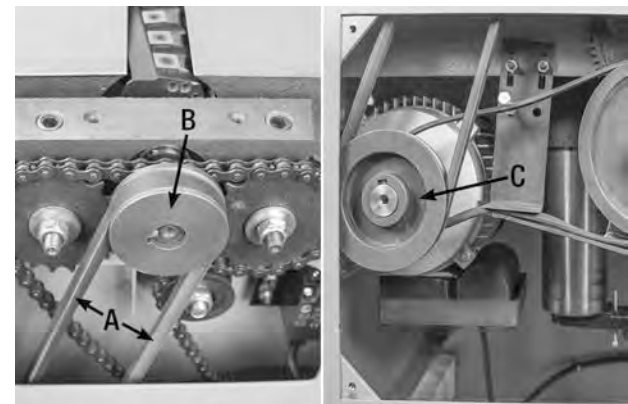

FIGURE 26
5. Remove the cutterhead drive belt (A) Fig.26 from the cutterhead pulley (B) and motor pulley (C).